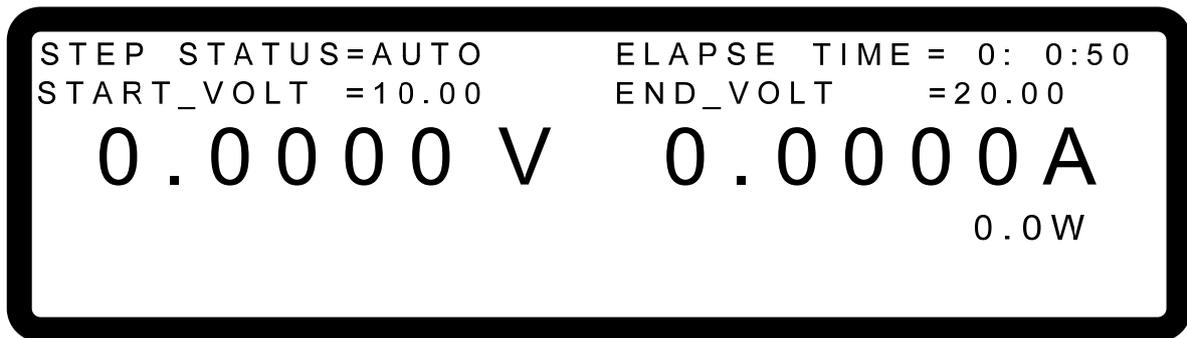

Figure 4-23
2. Press one more time to confirm the execution. It will skip to the MAIN PAGE during execution as Figure 4-23 shows. To quit the execution, press can return to the MAIN PAGE window at standby.